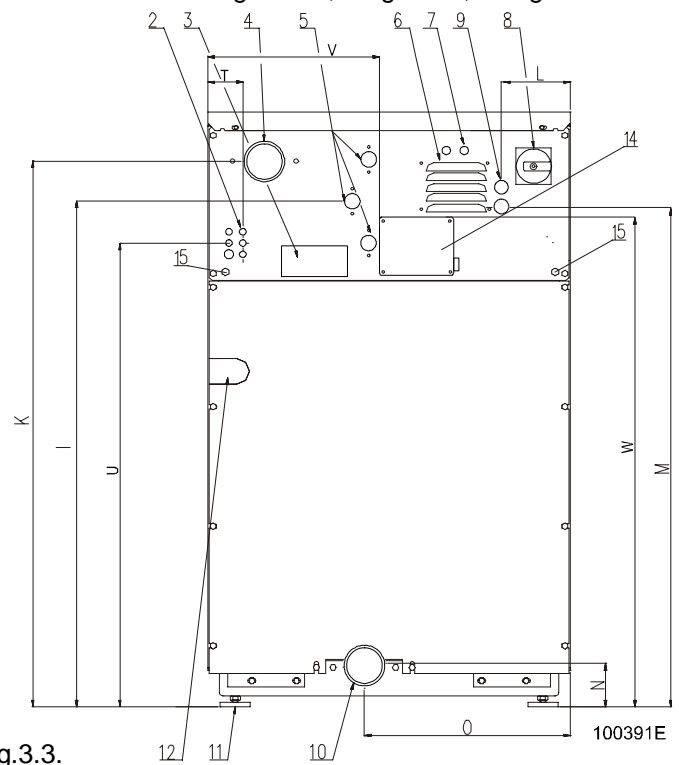

Fig.3.3.
Position the machine only on his 4 adjustable rubber feet. The rubber feet are screwed on the bottom of the machine frame and are adjustable with a wrench size 13 mm / 0.5" and 17 mm / 0.7". Check the position of the top of the machine by a water level and adjust machine feet, fig.3.3., pos.11. Adjust the four rubber feet until the machine is leveled in such a way that they push equally on the floor. Once adjusted, tighten the nut M10 back to the bottom of the frame as counter nut.
The machine has been designed for connecting to the electrical network according the specification of your order. Before connection check the electrical data stated on the data plate (fig.3.3., pos.3), if they correspond to your electrical network. An individual branch circuit needs to be used for each machine. The way of the connection is described in fig.4.4.A. For electrical protection, there must be installed a residual current device (RCD) and a circuit breaker in the electrical installation of the building (laundry switchboard). For correct selection see below.